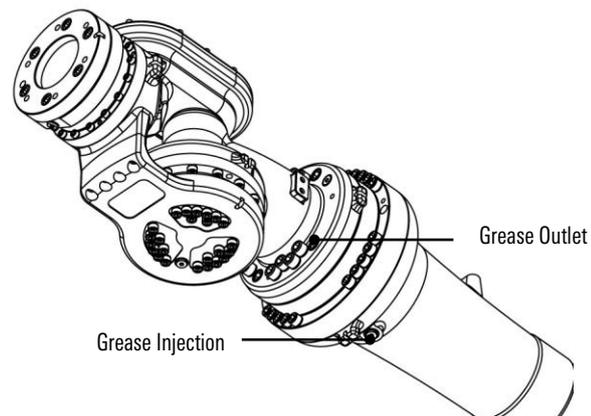

Figure 13-8 Replace the lubricating grease of J4 axis reducer
- Remove the grease outlet M10x1 plug, as shown in Figure 13-8.